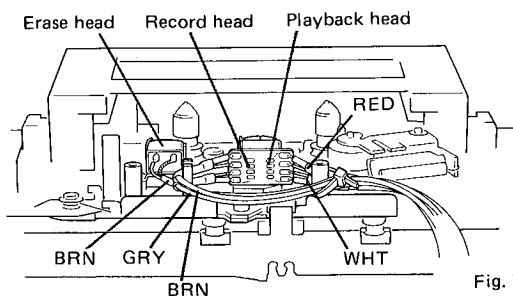

Fig. 7
1. Unsolder the lead wire of the erase head. (When wiring, refer to Fig. 7)
1. Unsolder the lead wire of the record/playback head. (When wiring, refer to Fig. 7)